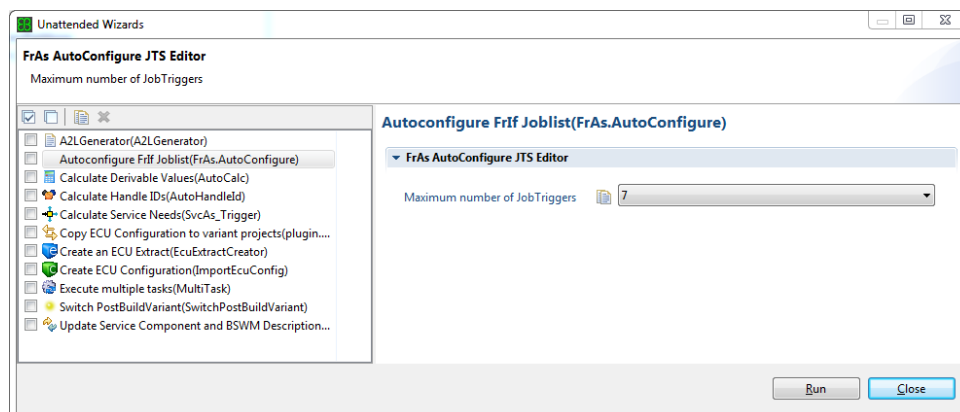

Figure 4.14. Configuring the maximum number of Job Triggers
3. Configure the maximum number of Job Triggers in the window that appears, see Figure 4.14, “Configuring the maximum number of Job Triggers”.